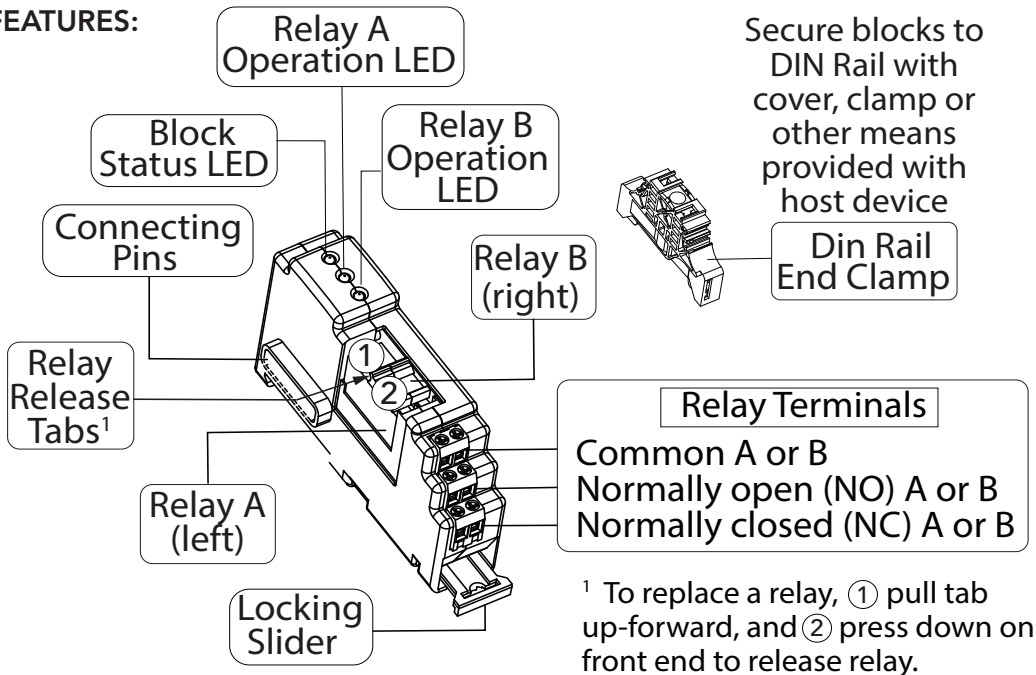

Figure 2-1. ReadyRelay Features
See Figure 2-1 in Section 2.0, and table below. The top ReadyRelay LED indicates Block status; the middle LED indicates operation of Relay A; the lower LED indicates operation of Relay B. The status LED will operate with a momentary heartbeat off every (5) seconds.